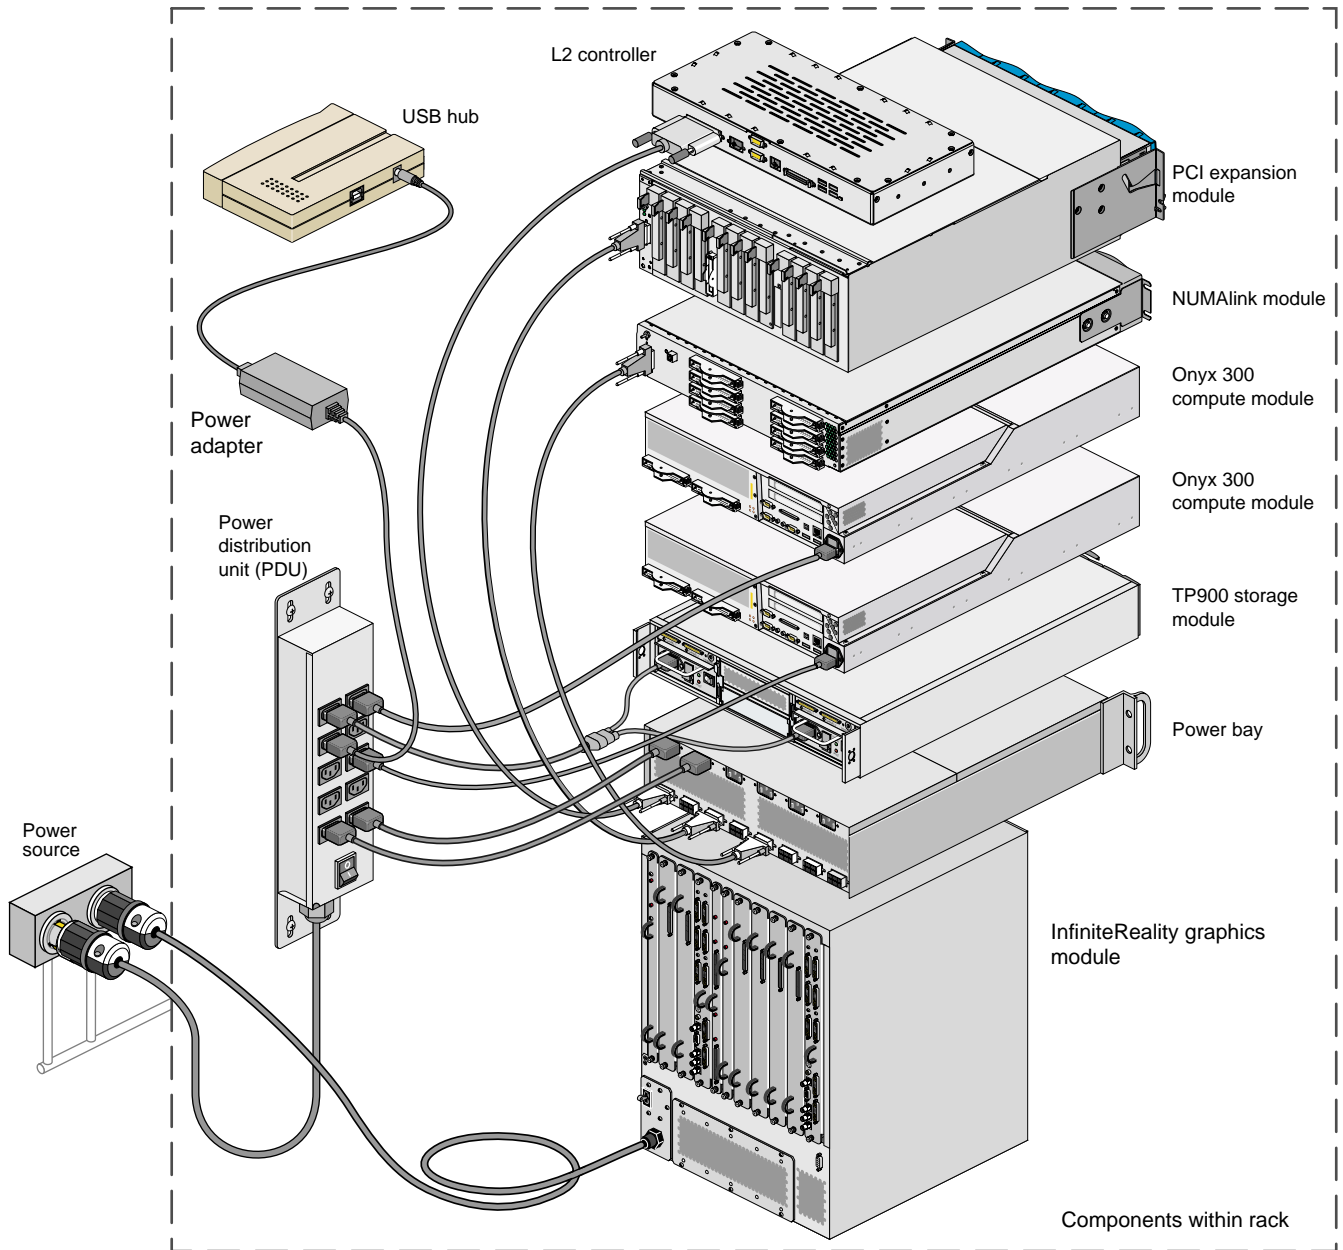

Figure 2-10 Power Connections in System with DC-powered NUMalink Module
- Between the InfiniteReality graphics module(s) and the external power receptacle(s) (refer to Figure 2-10).
- Between the power bay and the following modules: DC-powered NUMAlink module, PCI expansion module(s), and L2 controller module (refer to Figure 2-10).
Figure 2-10 shows the connection between an InfiniteReality graphics module and an external power receptacle. It also shows the PDU and power bay connections to the other components within a system that contains a DC-powered NUMAlink module.